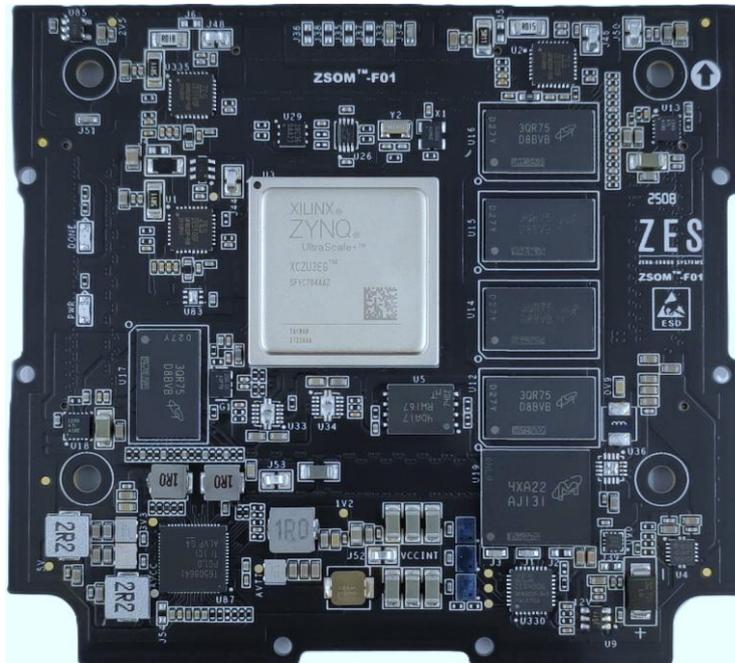

Figure 2: Top View
- Top View (Figure 2): Displaying the placement of the Zynq MPSoC FPGA chip, DDR4 memory chips, QSPI flash, eMMC flash, clock components, LEDs, and power connectors.